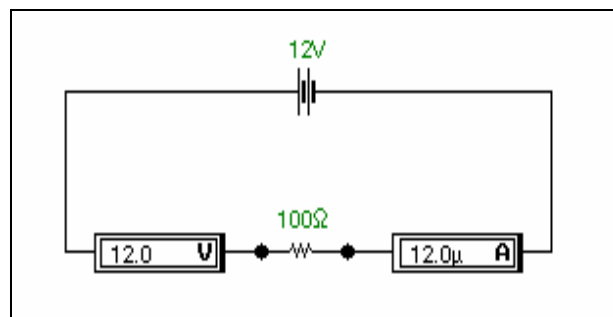

**Figure 2. An incorrectly connected ammeter changes the flow of current in a circuit.**
in *series* with the resistor or other circuit component through which one wishes to measure current. Resistors in series are added by summing their values. In this case the value of the resistor in the circuit being examined and the value of the internal resistance of the ammeter are simply added together:  $R_{\text{circuit}} + R_{\text{ammeter}} = R_{\text{total}}$ . The low value of the internal resistance of an ammeter does not appreciably contribute to  $R_{\text{total}}$  and may be ignored. If the ammeter in Figure 1 were to be connected in *parallel* with the resistor (as in Figure 2) the current would have a choice of paths to take and the majority of it would follow the path of lowest resistance through the ammeter rather than the resistor. Resistors in parallel are added by summing their inverses, e.g.,  $1/R_c + 1/R_a = 1/R_t$ . A small value of  $R_a$  results in a large increase in the value of  $1/R_a$ . This results in a significant decrease in the overall
1. Assume that the ammeter in Figure 2 has an internal resistance of  $1 \times 10^{-3} \Omega$ . Compute an equivalent resistance for this circuit and verify that the current flowing through the circuit is about 12,000 amps. Now make a diagram of the circuit with the ammeter connected correctly. Compute an equivalent resistance for this circuit and verify that the current flowing through the resistor is about 120 mA. What is responsible for the difference?